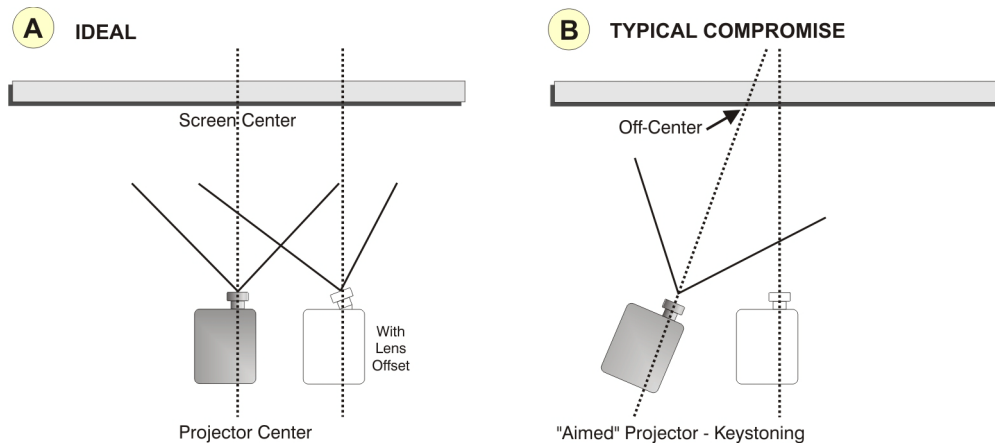

Figure 2-1 Position the Projector
2. Position the projector at an appropriate throw distance (projector-to-screen distance) and vertical position. Ideally, center the projector with the theatre screen. If competing for space with an already present film projector, aim the projector slightly off-center, as shown in **Figure 2-1**. This will slightly increase side keystoneing, but will minimize the horizontal lens offset required. **NOTE:** *Unlike film projectors, it is best to keep the projector lens surface as parallel to the screen as possible, even if significantly above the screen center. When a particularly short throw distance combines with a very wide screen, you may have to forfeit some aim and stay more parallel to the screen. In such cases, some lens offset can reduce the keystone distortion.*